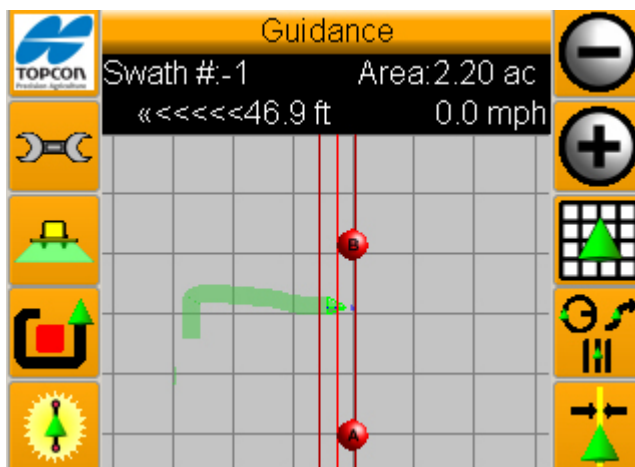

Figure 10-29. Guidance Pattern will load on screen
6. The Guidance Pattern will be loaded onto the screen (figure 10-29).